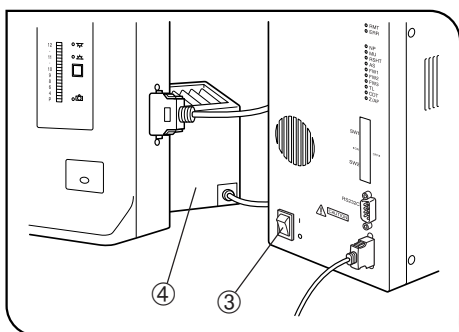

Fig. 2
5. When lowering the stage by pressing the stage DOWN button ①, be careful not to have your hand caught between the bottom ② of the condenser and the base.
8. To avoid potential shock hazards and burns when replacing the light bulb, set the main switch ③ to "OFF" then disconnect the power cord from the wall outlet in advance. Whenever you replace the bulb during use or right after use, allow the lamp housing ④ and bulb to cool before touching. (Fig. 2)